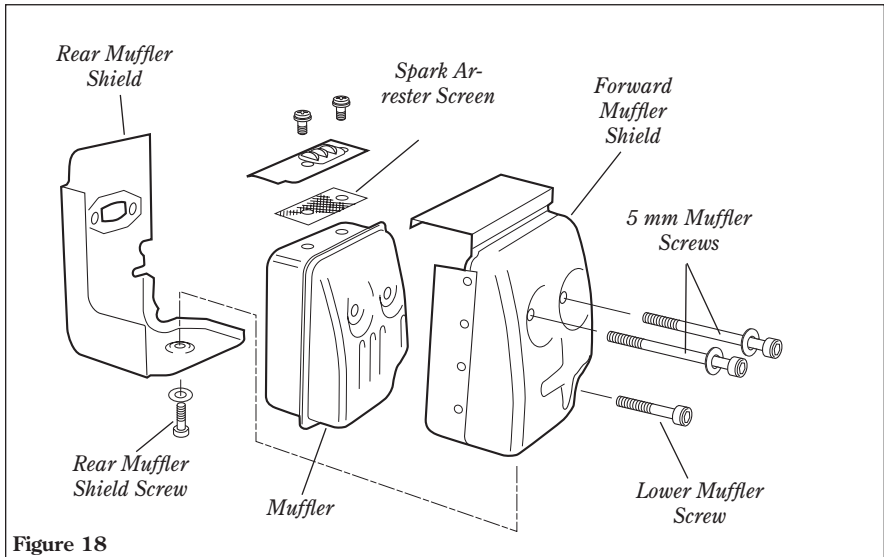

Figure 18
5. Remove the rear muffler shield socket head screw and, while noting the orientation of parts, separate the muffler shield. See Figure 18.